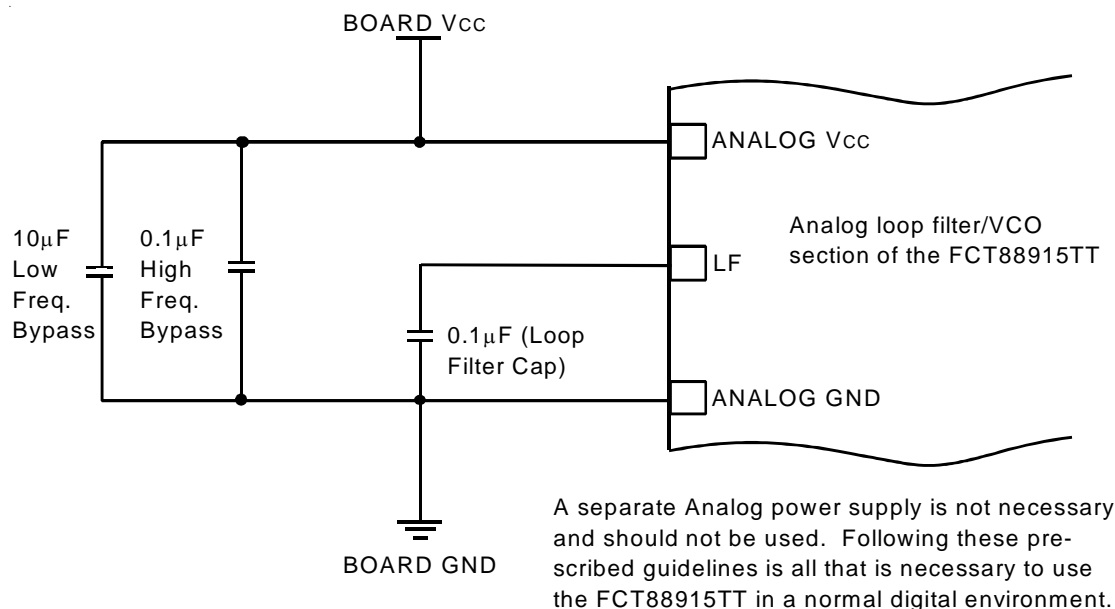

Figure 3. Recommended Loop Filter and Analog Isolation Scheme for the FCT88915TT
1. Figure 3 shows a loop filter and analog isolation scheme which will be effective in most applications. The following guidelines should be followed to ensure stable and jitter-free operation:
If good bypass techniques are used on a board design near components which may cause digital Vcc and ground noise, Vcc step deviations should not occur at the 88915TT's digital Vcc supply. The purpose of the bypass filtering scheme shown in Figure 3 is to give the 88915TT additional protection from the power supply and ground plane transients that can occur in a high frequency, high speed digital system.
2. In addition to the bypass capacitors used in the analog filter of Figure 3, there should be a 0.1µF bypass capacitor between each of the other (digital) four Vcc pins and the board ground plane. This will reduce output switching noise caused by the 88915TT outputs, in addition to reducing potential for noise in the "analog" section of the chip. These bypass capacitors should also be tied as close to the 88915TT package as possible.